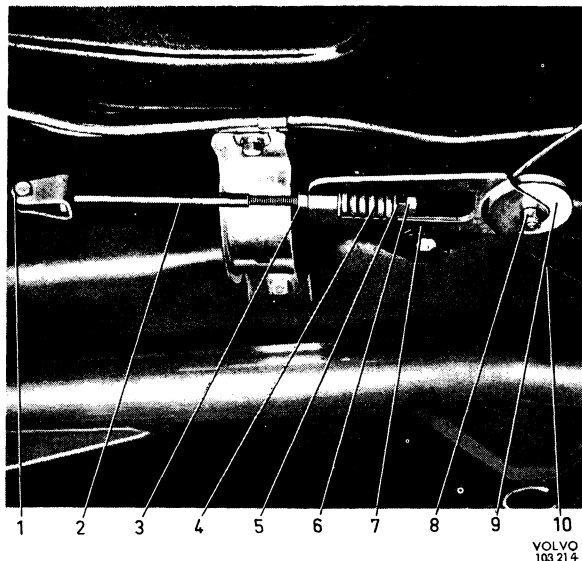

Fig. 5-82. Adjusting device cable
further, the cable should be tensioned. This is done by loosening the locknuts and screwing in the pulley on the pull rod, see Fig. 5-82. After adjusting, tighten the locknuts. Check that there is approximately the same braking effect on both rear wheels.
- Remove the bolt (8, Fig. 5-82) and then the wheel (9) from the pulley (7).
1. If new linings or drums are to be fitted, slacken the pulley (7, Fig. 5-82) to remove tension in the cable.